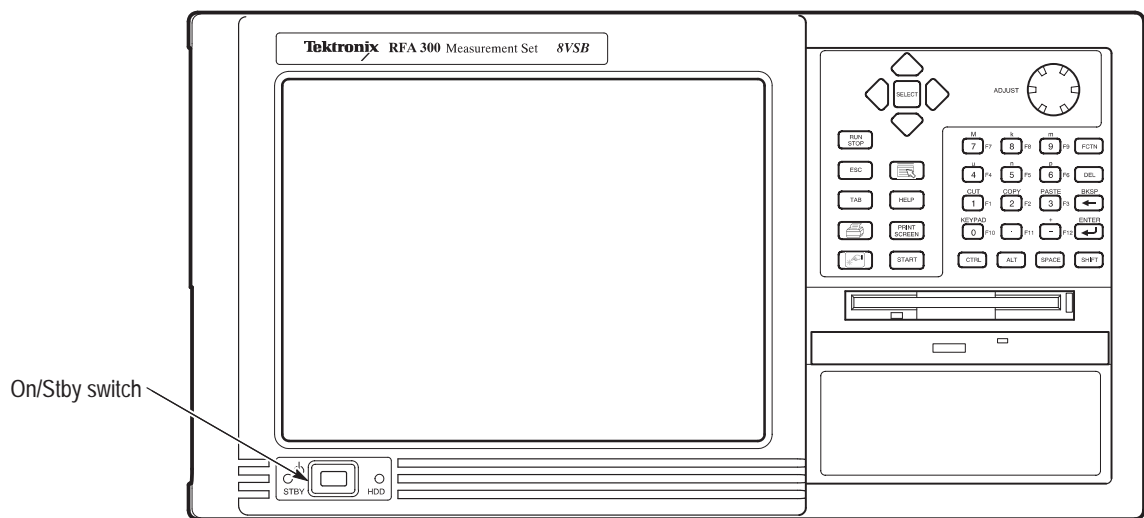

Figure 2–4: On/Stby switch
1. Press the On/Standby switch to power on the instrument (see Figure 2–4 for the switch location).